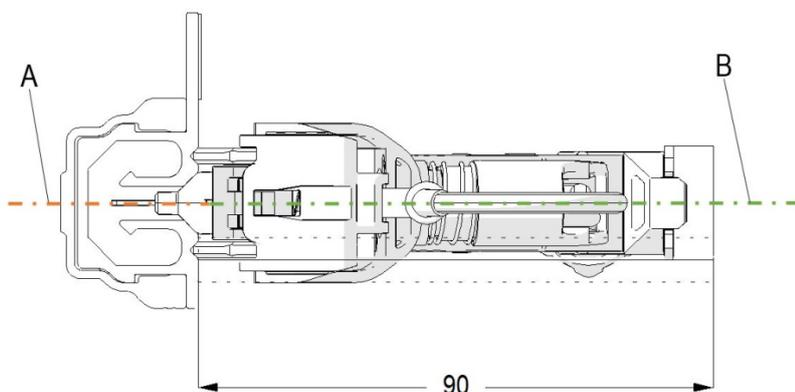

Fig. 127: Collector mounting dimension from towing unit to bottom edge of rail
- Mount/snap the collector/collector bearing (3) onto the towing device (1).
- Slide the collector head (4) with the mobile antenna into the data rail from the side.
- Align the towing unit (1) including the collector with the data rail (see Fig. 127).
It must be ensured that the central axis of the data rail (A) is mounted exactly on the central axis of the collector (B) and that the specified mounting distance between the towing unit and rail is maintained (see Layout Plan and Fig. 127).